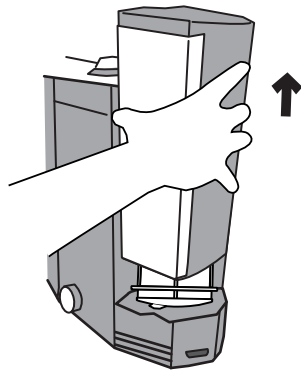

Fig. 1B
- With the cover unlocked. Lift cover straight up. (Fig. 1B)